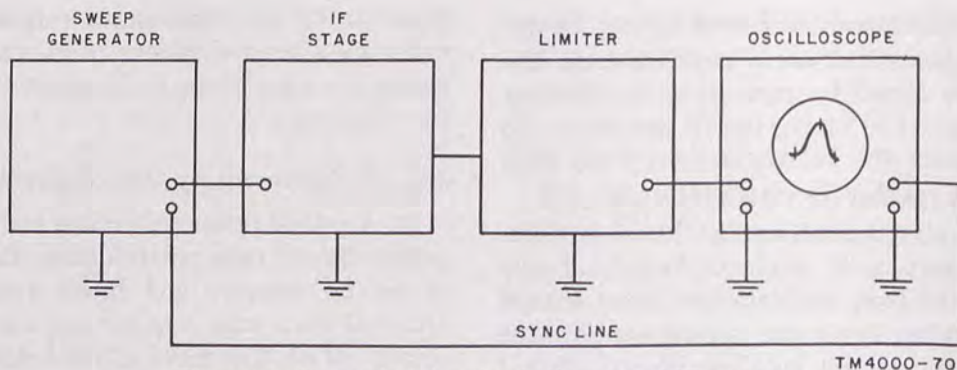

Figure 83. Connections for visual alinement of IF stages.
a. A cathode-ray oscilloscope and sweep generator can be used when alining the IF stages of an fm receiver and better results can be obtained than with a meter and am signal generator. With this method, the actual tuned-circuit response curves are traced out on the oscilloscope screen. The curve shown on the oscilloscope in figure 83 is typical. The peak of the curve must be exactly at the resting frequency.
- (1) To insure that the peak is at the resting frequency and that the band-pass characteristics are correct, marker signals must be used. Marker signals, properly injected into the circuit being alined, will produce pips at points on the response curve corresponding to the frequencies of the marker signals.
- (2) Any signal generator that is accurately calibrated and that can be tuned to produce an unmodulated signal at the desired marker frequency may be used as a marker generator. Some special generators can supply several marker signals simultaneously.
- (3) To obtain the three pips as shown in figure 83, it is necessary to inject marker signals at frequencies corresponding to the center, upper limit, and lower limit of the IF pass band.
- (4) Unless the band-pass characteristics are very critical, one marker signal at the center frequency is usually sufficient.
b. To aline IF stages by this method, connect the vertical terminals of the oscilloscope across the grid resistor in the limiter stage. Connect the sweep generator to the grid of the last IF stage. Figure 83 shows the block diagram connections.
- (1) When alining fm receivers that use ratio detectors, connect the fm signal generator to the grid of the last IF stage. Connect the audio output of the ratio detector to the vertical input of the oscilloscope. Proper alinement is indicated by the previously mentioned S curve, the same as for the discriminator, but there the similarity ends. If the secondary of the detector input transformer is detuned, the S curve will become the familiar bell curve (fig. 83).
- (2) Start the alinement by detuning the secondary of the detector input transformer. This should result in a bell-shaped curve on the oscilloscope. Tune the primary for maximum amplitude of the bell curve.
- (3) Aline the remaining IF stages, one at a time, moving towards the mixer. Then adjust the secondary of the detector transformer for the S curve. A marker signal, injected with the IF signal, is helpful in centering the S curve.
a. The visual method can be used to aline the RF, mixer, and oscillator stages of an fm receiver. Connect the vertical input of the oscilloscope across the limiter grid resistor and the sweep generator output to the antenna terminals of the receiver. The test setup is the same as that in figure 83 except for the point of sweep generator connection.